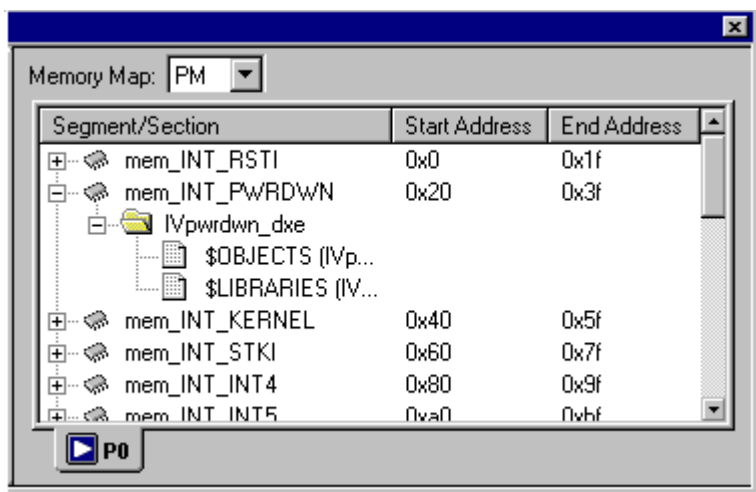

Figure 3-15. Expert Linker Window – Memory Map
- **Memory Map Tree** — Displays the memory map in a tree representation (see Figure 3-15 on page 3-21).